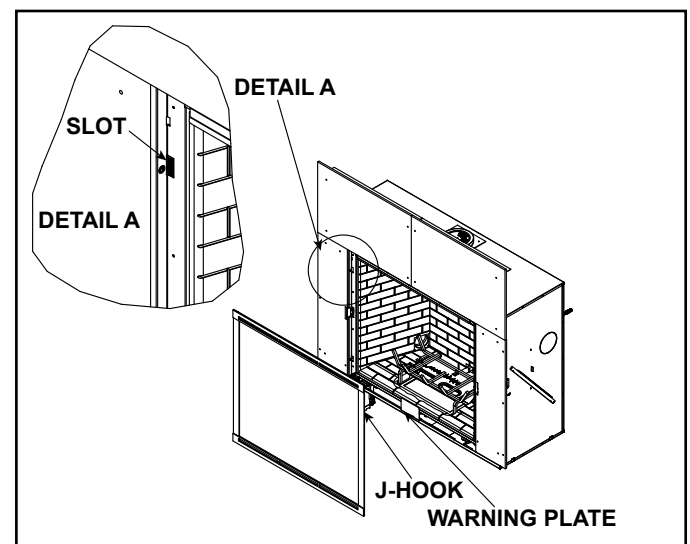

Figure 6. Bottom Vanity Panel
1. Remove labeled warning plate on the appliance by removing two screws. The warning plate was factory-installed to ensure that the hearth was installed to the required clearances. See Figure 6.
2. Locate the two vertical slots in the left and right surround of the appliance. See Figure 6. Grasp the top left and right side of the decorative front and engage the "J-Hooks" into the slots on the surround.